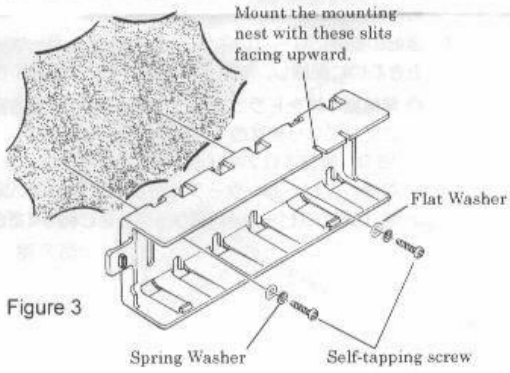

Figure 3
5. Referring to Figures 3~5, mount the Front Panel nest in the desired location.